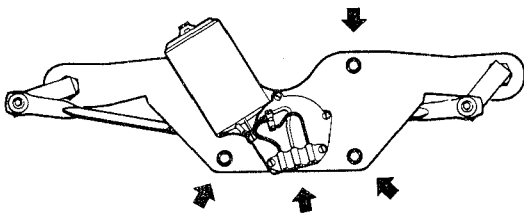

Fig. 1
3. Disconnect wires at snap-on connectors (refer to Fig. 1).
5. Remove the 3 retaining nuts and withdraw support bracket with wiper motor (refer to Fig. 1).